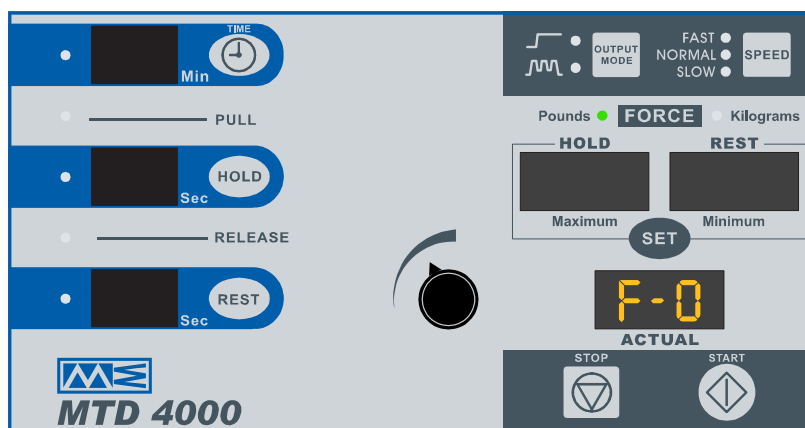

Figure 5.3— F-0 Controls and Displays
3. Continue to press and hold down the set button at least 3 seconds. The system will enter “Factory Setting Mode” and display “F-0” in the “Actual” display window as shown in Figure 5.3.